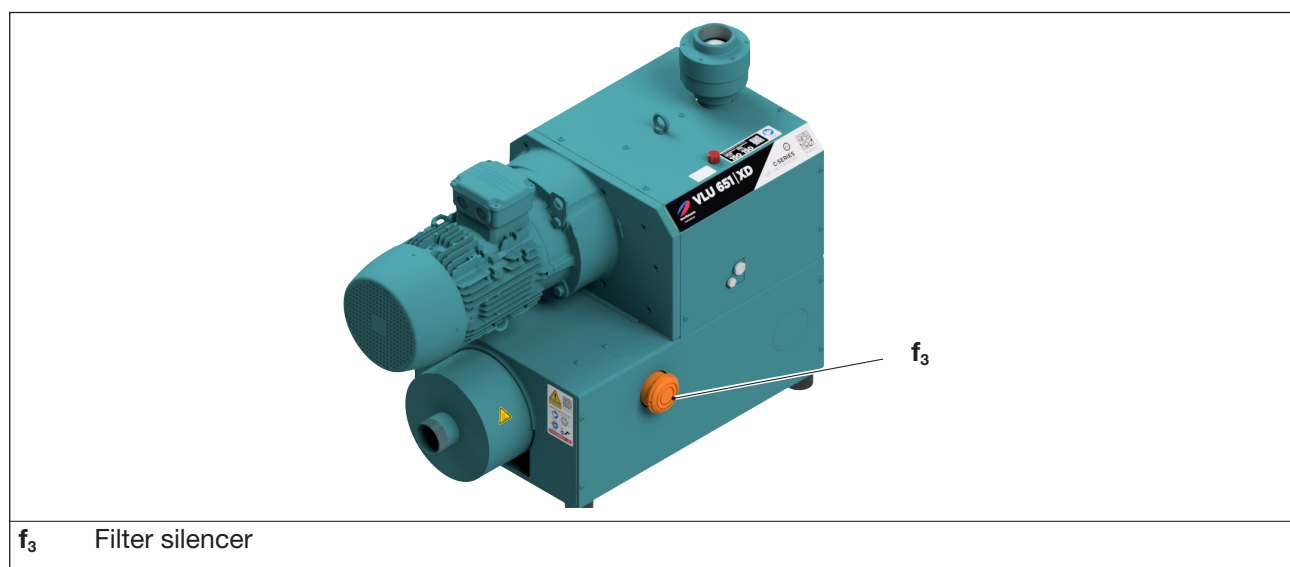

Fig. 7 Filterschalldämpfer
- Take off the cover of the filter silencer (Fig. 7/f3)